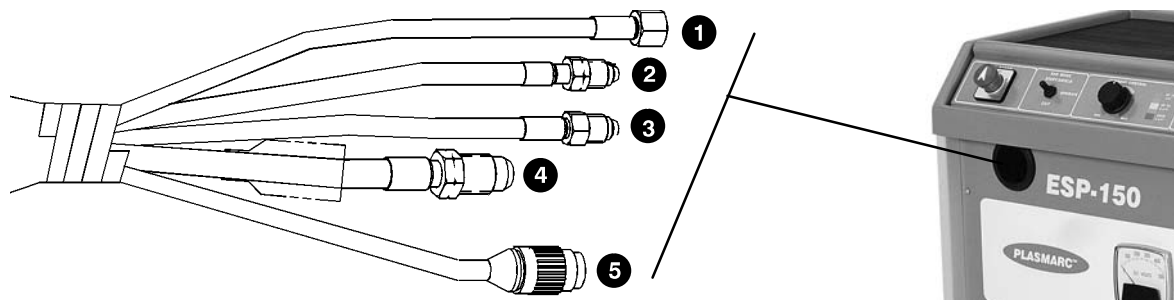

Fig 10 For manual torch applications, pass the service connections through the rubber grommet in the front of ESP-150 and make connections as shown.
1. Open top front cover to gain access to the torch connections. (Fig. 10)